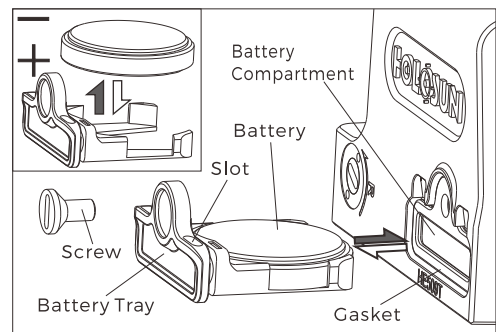

Fig 4
3. Battery replacement (fig 4):